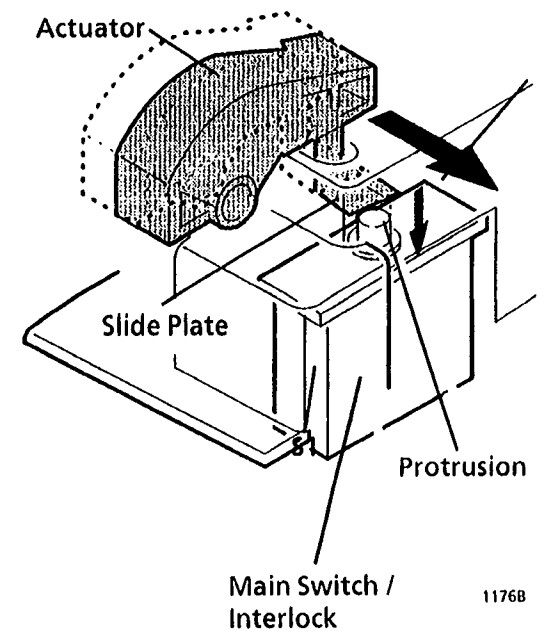

Figure 3. Actuating the Switch
3. (Figure 3): The slide plate presses down the protrusion of the Power On-Off Switch S1 to switch on the power.